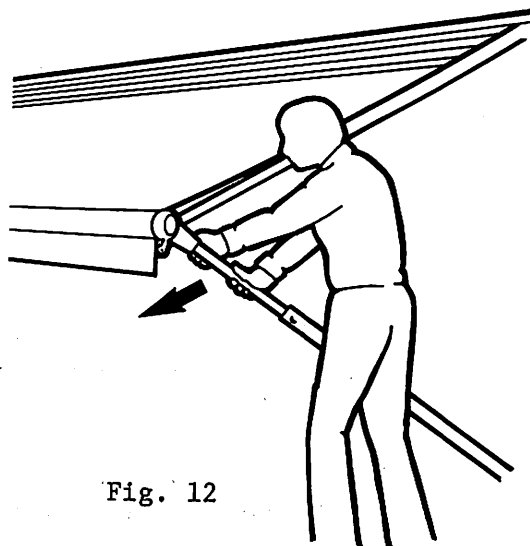

Fig. 12
- Step 4. Lock the rafter arm in position by pressing down on the steel main arm bar (Figure 12) until the ratchet stud clicks. At this point the fabric will be taut.